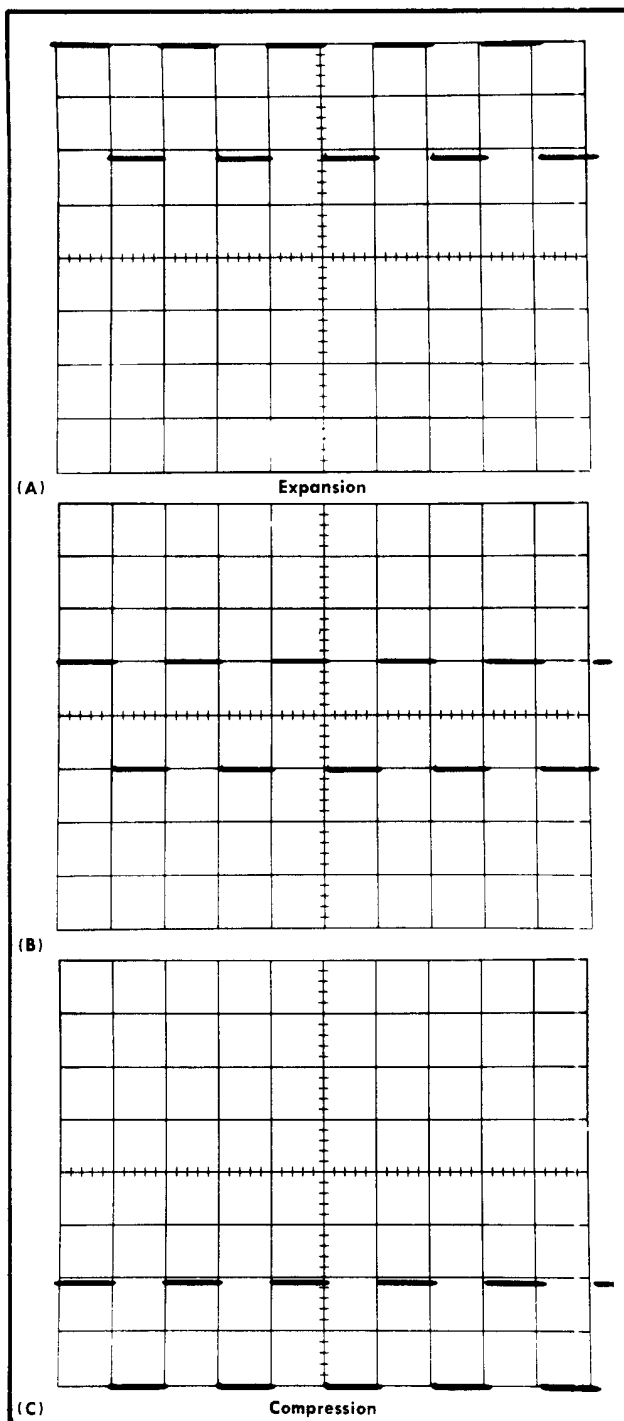

Fig. 5-4. Typical CRT display showing acceptable compression and expansion. Waveform (A) shows expansion; waveform (C) shows compression.
- CHECK—Compression or expansion not to exceed 0.2 division (see Fig. 5-4).
- Set the Channel 2 VARIABLE VOLTS/DIV control for exactly two divisions of deflection (see Fig. 5-4).
n. CHECK—Compression or expansion not to exceed 0.2 division (see Fig. 5-4).